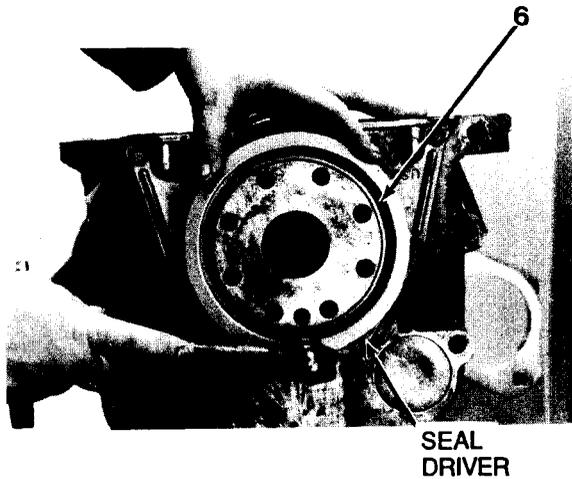

Figure 6-9
3. Using a seal driver, drive rear seal (6, Figure 6-9) on crankshaft until seal driver bottoms.